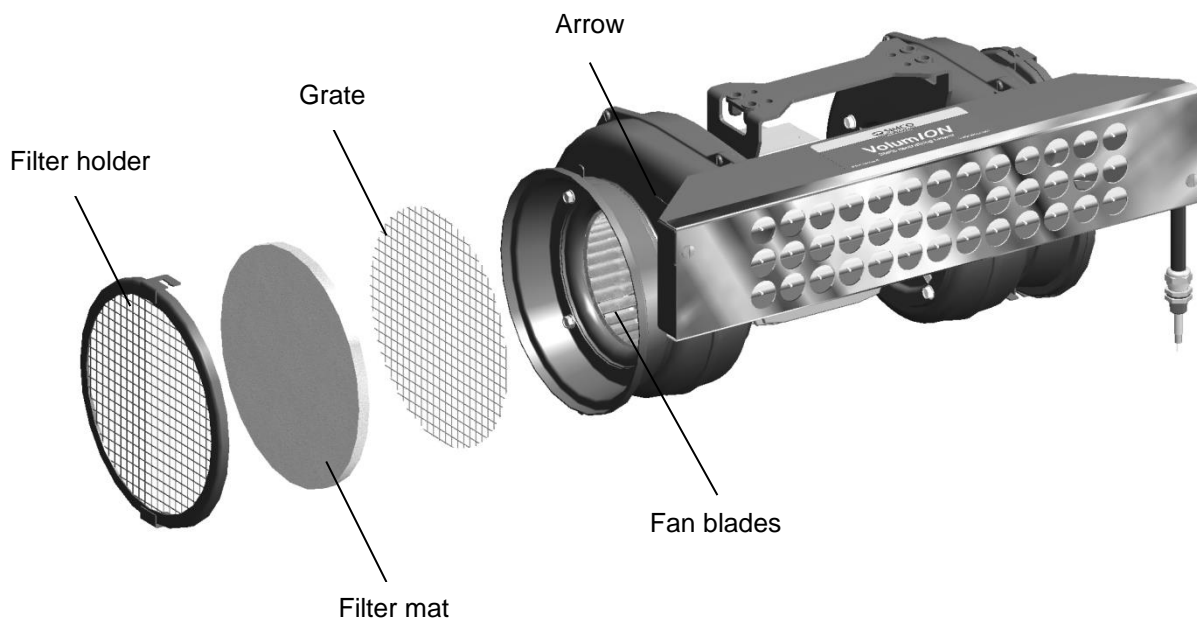

Figure 5: Fitting the VolumION air filter
The direction of rotation of the fan blades in the fan housing must be checked. This is shown by an arrow on the side of the fan housing. The direction of rotation can be seen by looking through the grate when the fan blades are turning. If filters are fitted, removed one of the filters to see the fan blades. See figure 5.
- Replace the grate, the filter mat and the filter holder on the filter housing (figure 5) if they have been removed.